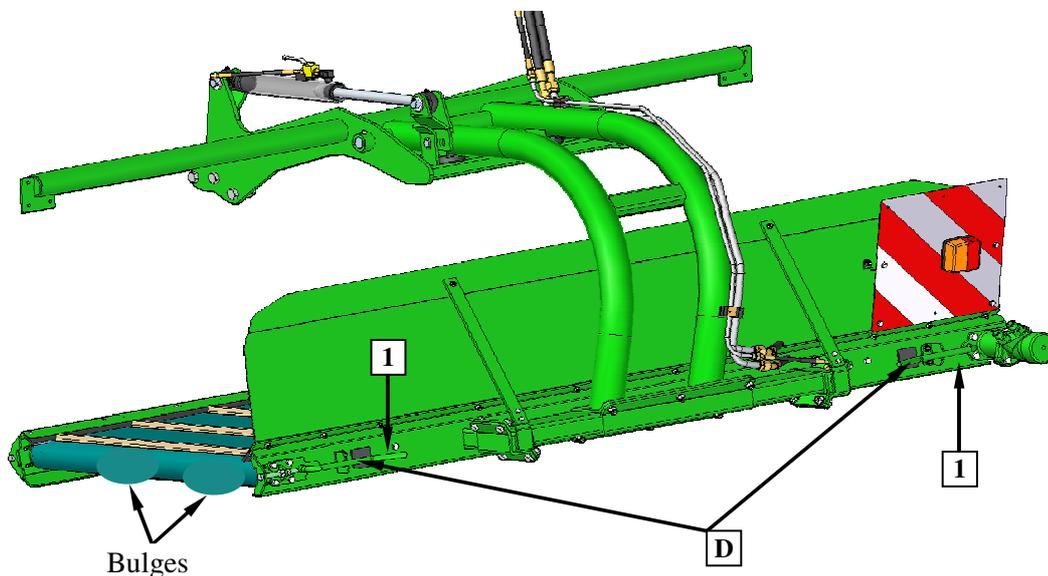

Fig. 41. Cleaning of conveyor rollers
1. In order to clean roller switch lever **D**, rotate belt to **1** and hold until bulges disappear (**Fig. 41**). This should also be performed from the other side of conveyor if necessary.